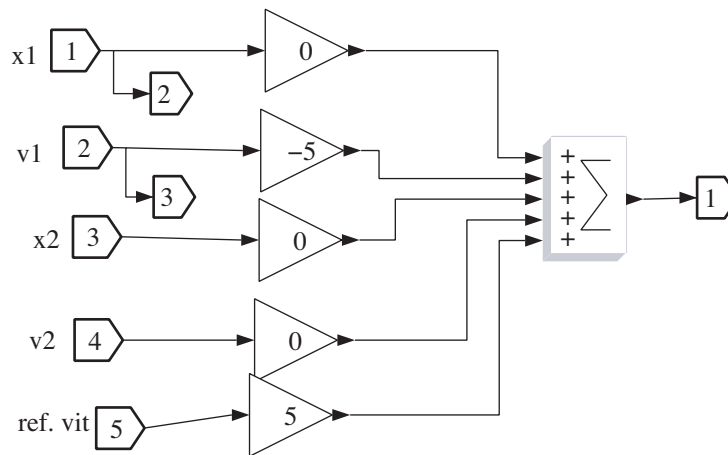
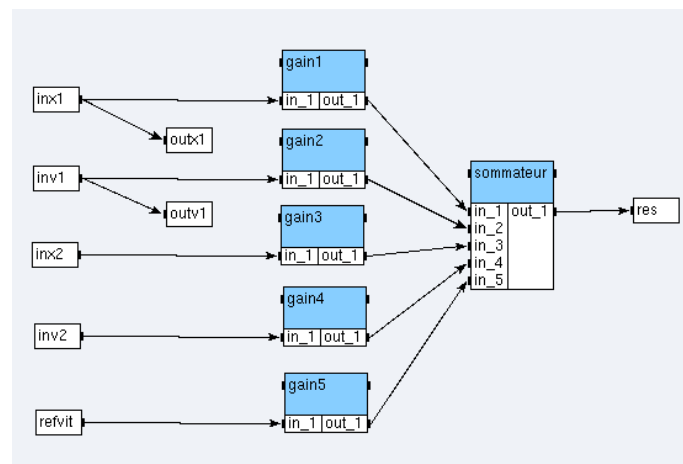

Figure 8.1: Scicos controller of the first car
Figure 8.2: SynDEX controller of the first car
Our controllers are simple. They are represented in figures 8.1 and 8.3 in Scicos and figures 8.2 and 8.4 in SynDEX:
- finally create both algorithms `controleur1_sup` and `controleur2_sup` (*cf.* figures 8.2 and 8.4), setting their gain parameters respectively to 0, -5, 0, 0, 5 and 4, 4, -4, -4.